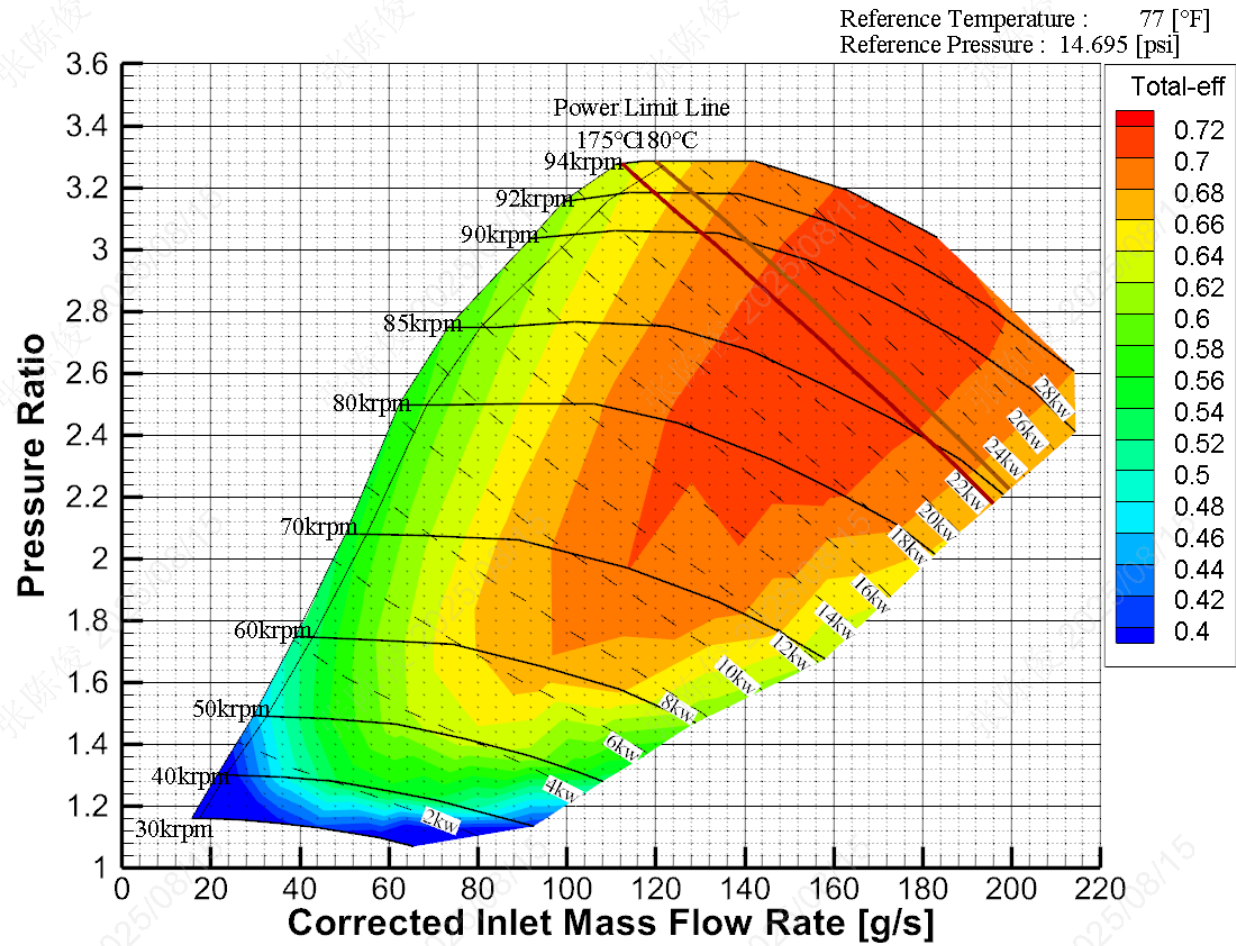

Figure 1 Air compressor map curve of FCC400H with customised edition
2.3.1.1 Air compressor map curve of FCC400H with customised edition is shown in Figure 1